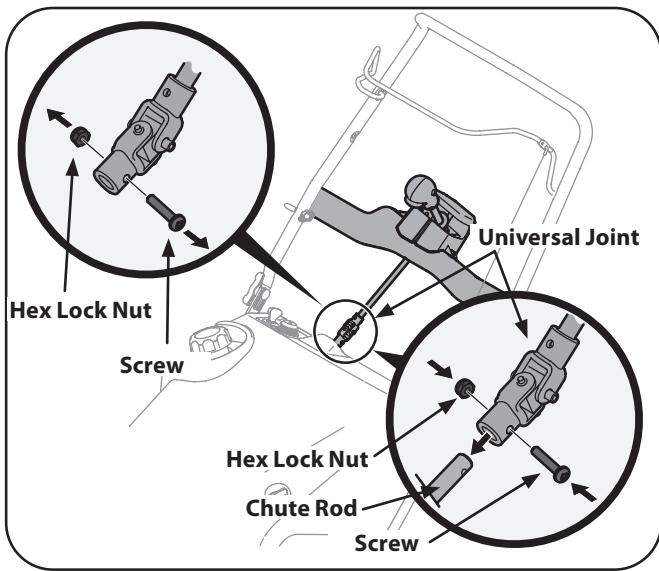

Figure 3-8
- Remove the screw and hex lock nut from the universal joint. See Fig. 3-8.
- Install the universal joint on the end of the chute rod as shown in Fig. 3-8.
- Secure the universal joint with the hex nut and screw previously removed. See Fig. 3-8.